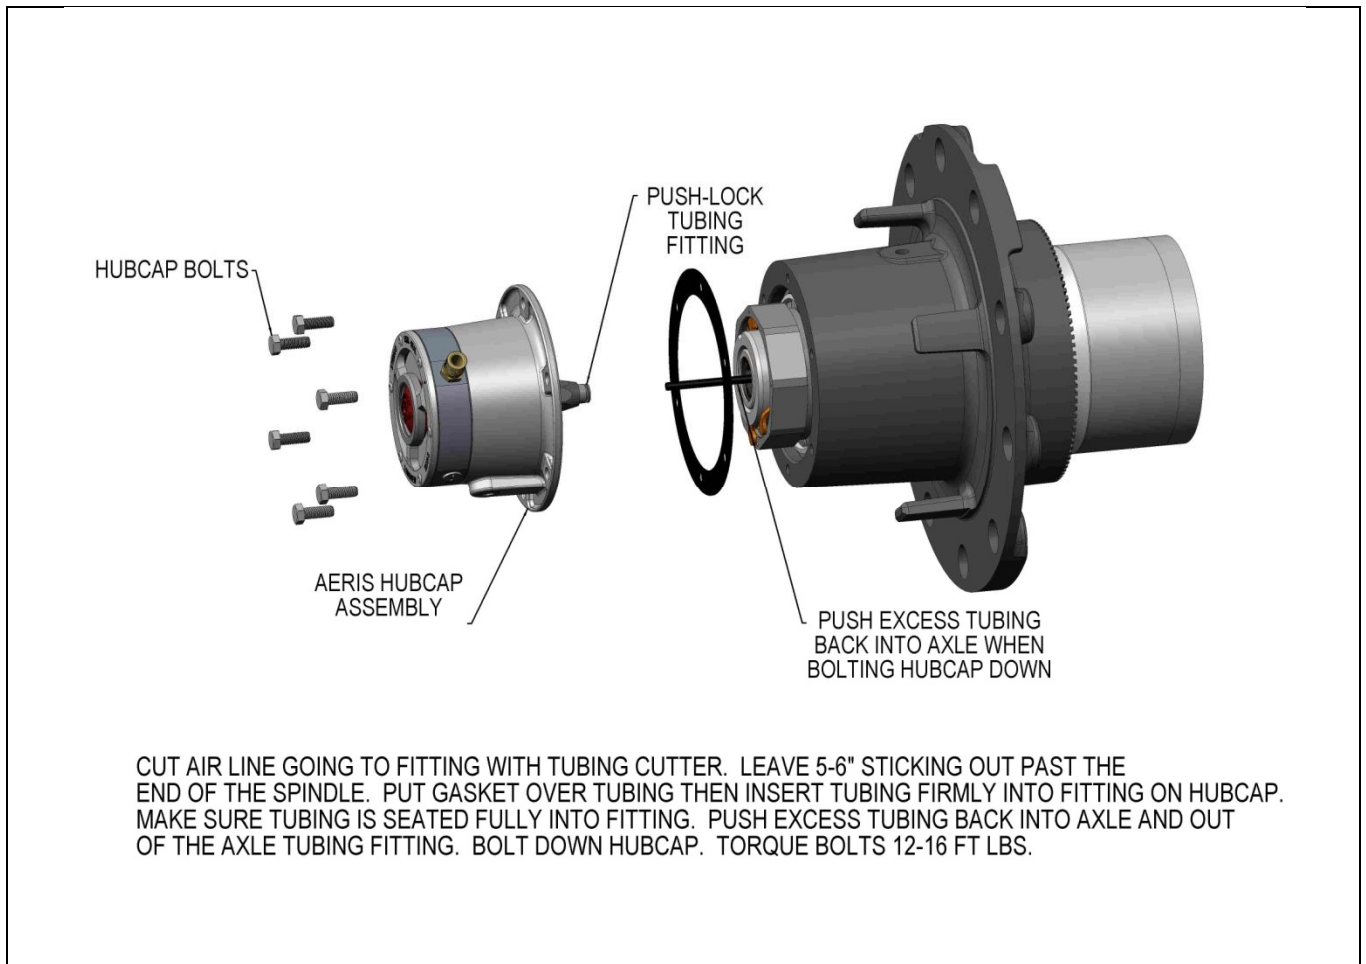
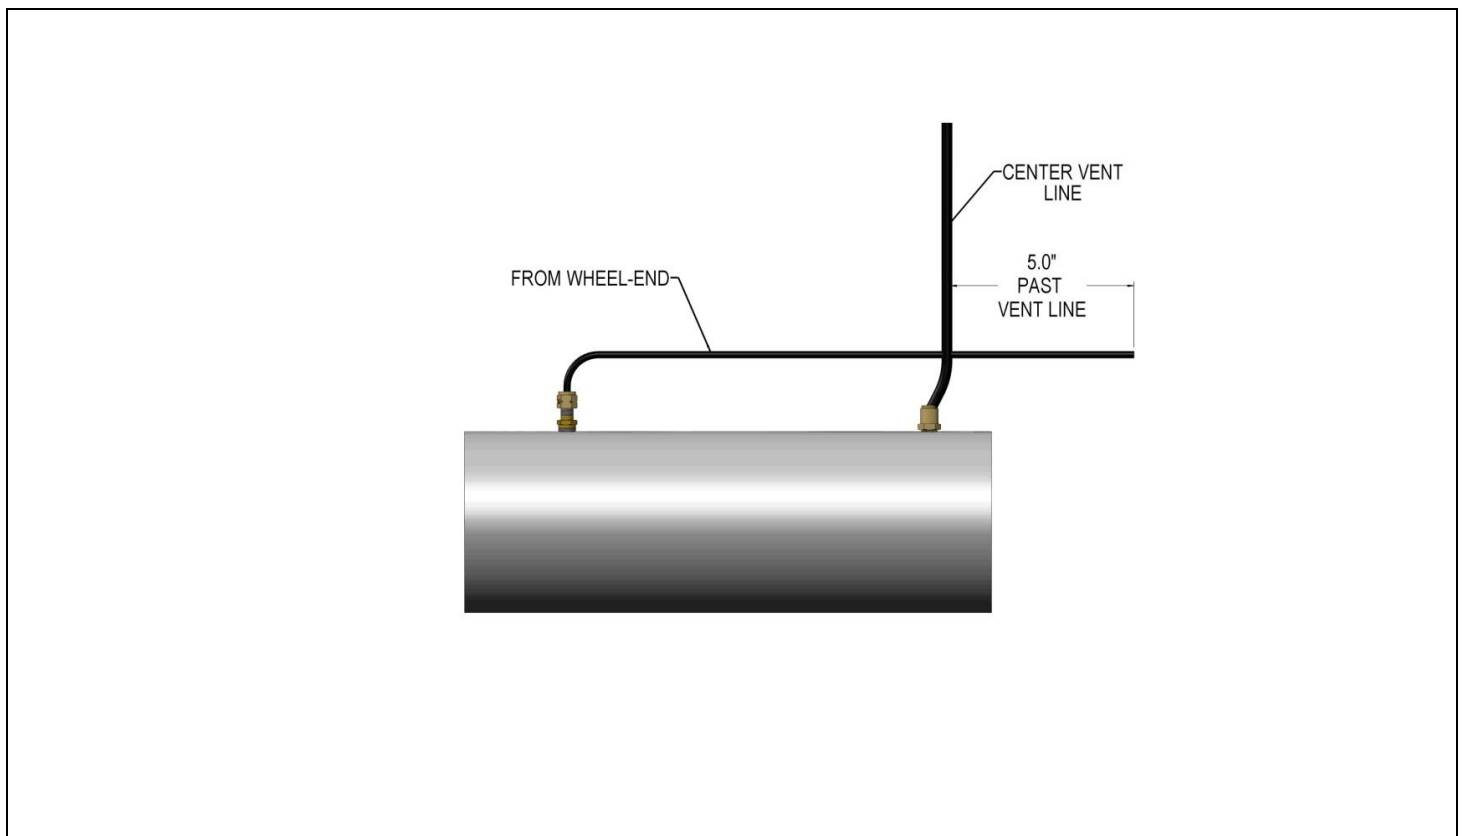

Figure 15
Figure 16
- Align hubcap gasket with bolt holes on hubcap and install bolts. Install all bolts and snug down until hubcap is seated against the hub. When all bolts are snug use a torque wrench to finish tightening bolts to correct specification. Tighten bolts using a star pattern as shown in figure 16. Torque bolts to 12-16 ft lbs. See Figure 15 and 17
- Using a tubing cutter, cut air line coming out of the closed pass through fitting on the axle 5" past the center of the axle vent hole. You want to make sure you have enough air line to attach to your tee fittings. See Figure 16